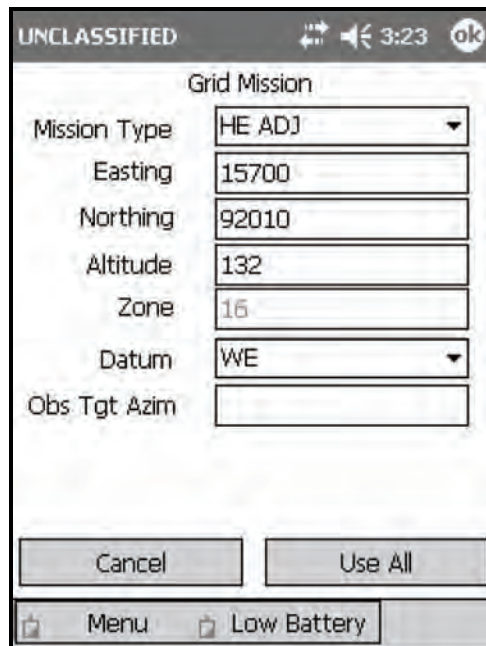

Figure 18-2. Manual grid mission entry.
- (1) Select Menu.
- (2) Select Manual Missions.
- (3) Select Grid Msn.
- (4) The Grid Mission screen (Figure 18-2) displays.